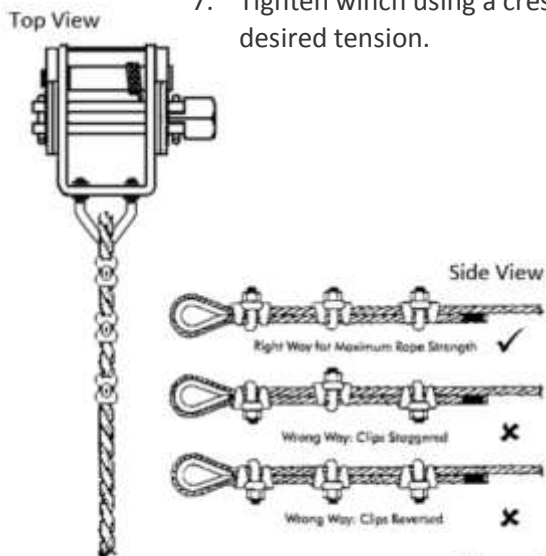

Figure 3.
6. Thread the end of the cable through the v-bolt and clamp as shown using thimble and cable clips (fig. 3).